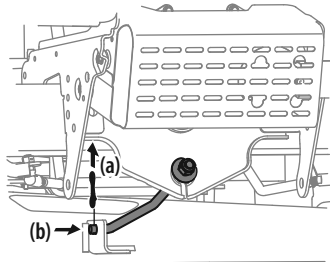

Figure 33
- On 36", 42" and 46" decks, Remove the bow-tie pin (a) securing the deck stabilizer rod (b) to the deck. Slide the deck lift rod from the mounting weldment on the deck as seen in Figure 33.